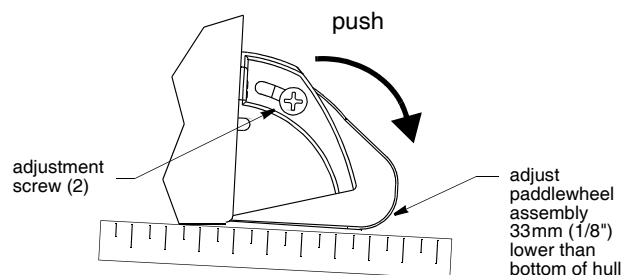

Figure 8. Tilting the adjustable paddlewheel assembly
- a. Increase the sensor's angle in the water. Tilt the adjustable paddlewheel assembly down 2° - 3° or until it is 3mm (1/8") lower than the bottom of the hull (Figure 8).